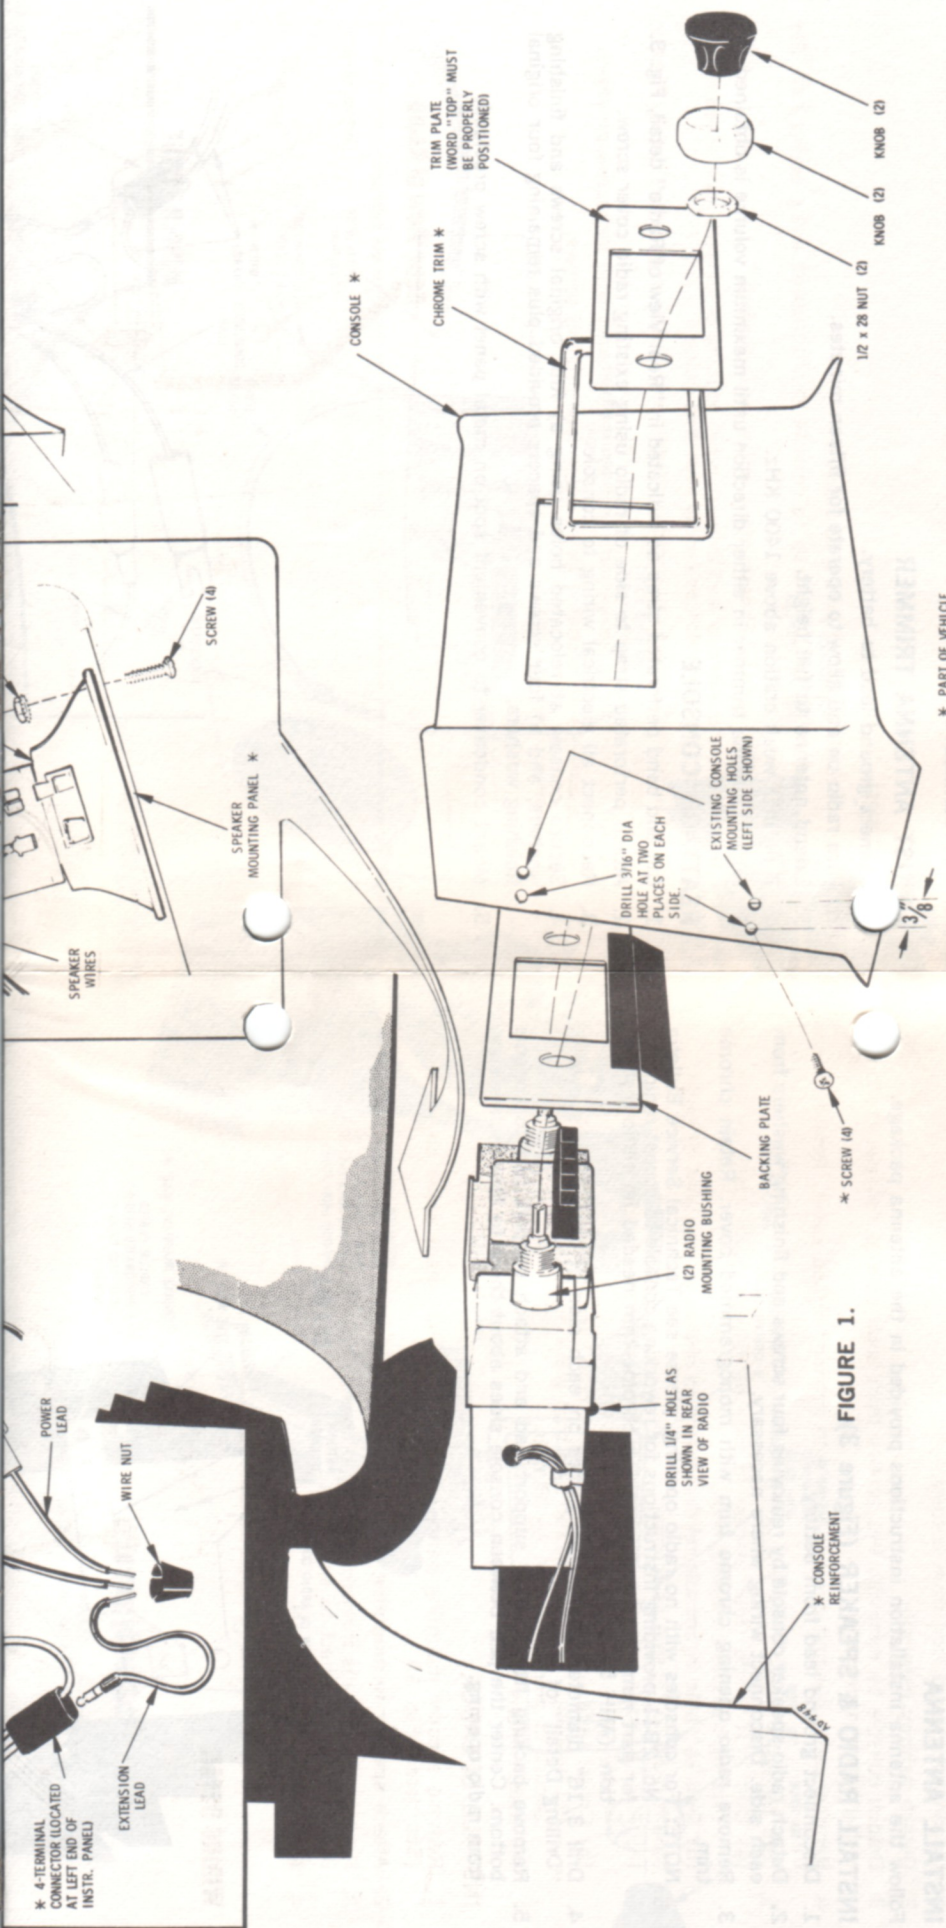

FIGURE 1.
INSTALL RADIO INTO CONSOLE (Figure 1)
5. Drill following holes: (See Figure 1):
1. Remove speaker mounting panel located under instrument panel on right side. (See detail, Fig. 1.)
2. Connect power lead and condenser lead as follows (See wiring detail, Fig. 1):
2. Install perforated support strap to console reinforcement using spring nut. See rear view of radio, Fig. 1.